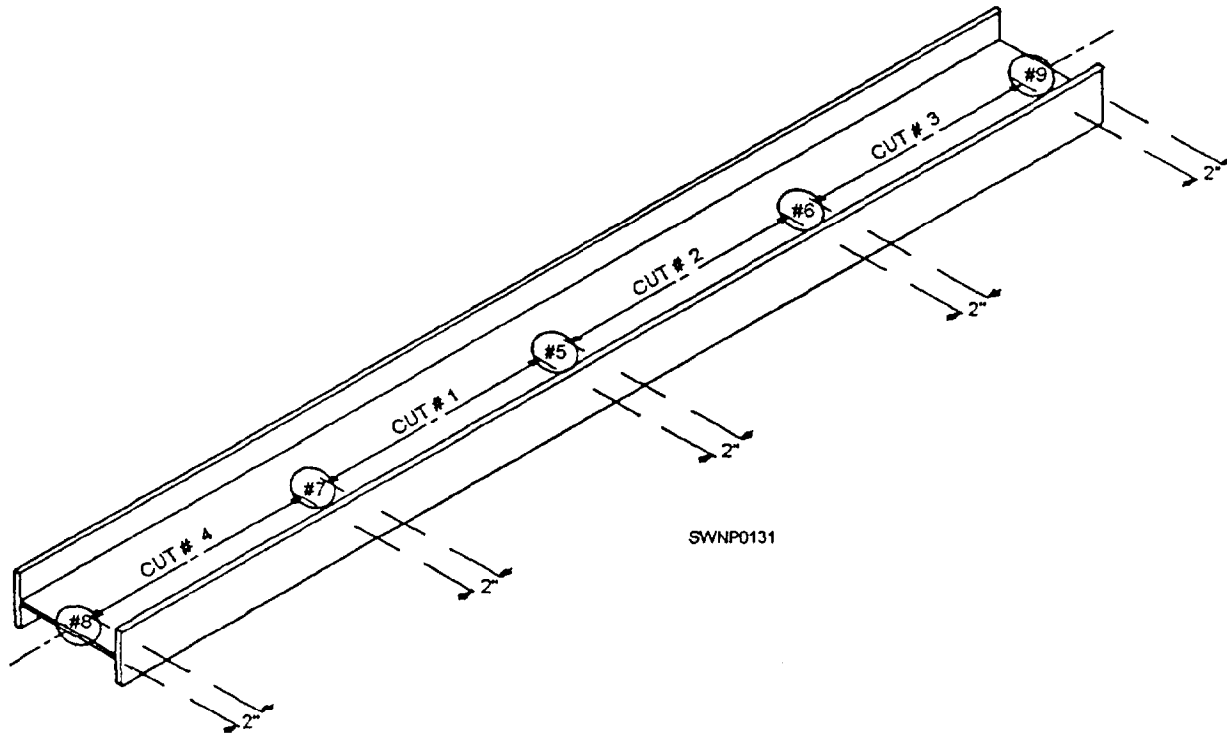

Figure 3-38.—Cutting order for splitting a beam.
1. Make splitting cuts about 2 feet (60 cm) long, leaving 2 inches (5 cm) of undisturbed metal between all cuts and at the end of the beam (fig. 3-38). As the cut is made, cool the steel behind the torch with a water spray or wet burlap.
2. After splitting cuts have been made and the beam cooled, cut through the metal between the cuts, starting at the center of the beam and working toward the ends, following the order shown in figure 3-38.